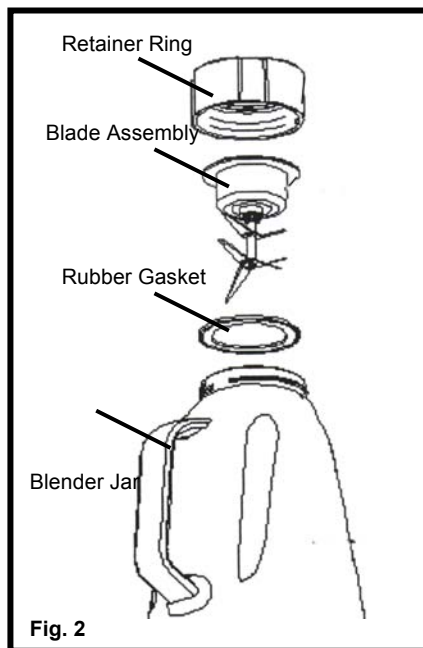

Fig. 2
1. Place jar upside down on a flat level surface. (Fig. 2)
2. Place the rubber gasket on the rim of the blender jar. (Fig. 2)
3. Holding the blade assembly by the base, place it carefully over the rubber gasket. (Fig. 2)
4. Place the retainer ring over the base of the blade assembly and screw on tightly. (Fig. 2)